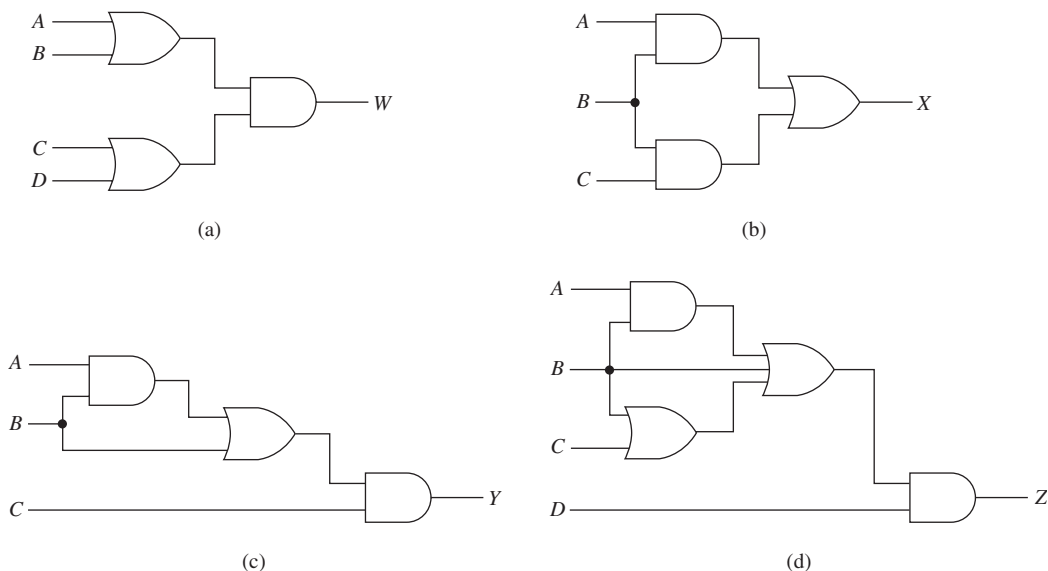

Figure P1
1. Write the Boolean equation for each of the logic circuits shown in Figure P1.